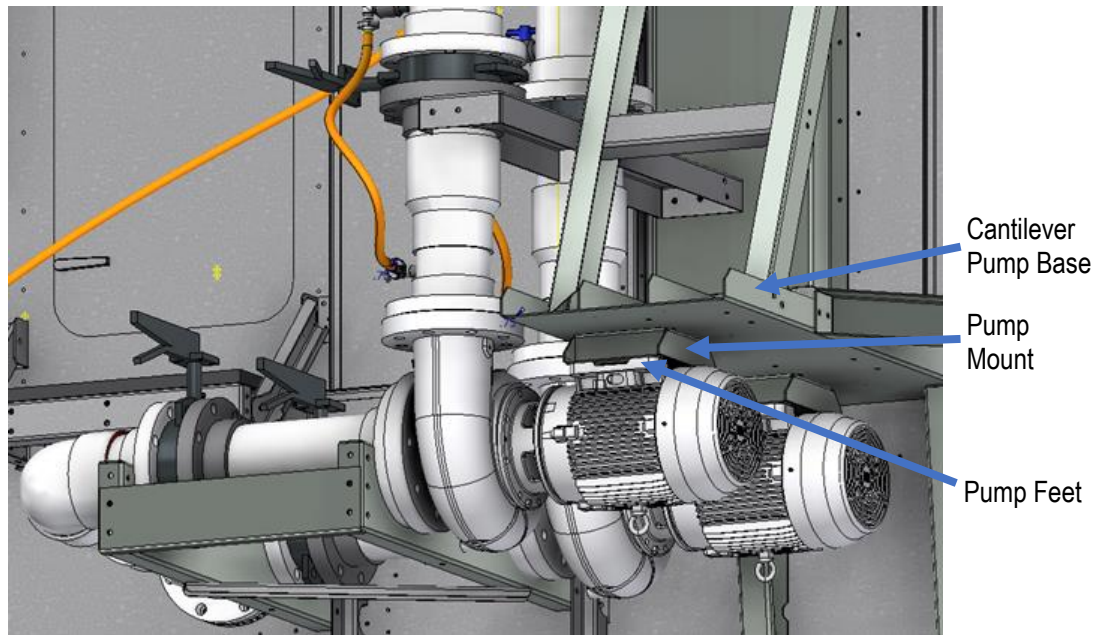

Figure 18. Pump Mounting
5. Loosen and remove hardware that fastens the pump mount to the cantilever pump base or remove the hardware that fastens the pump feet to the pump mount. See **Figure 18**.
1. Attach hardware that fastens the pump mount to the cantilever pump base or attach the hardware that fastens the pump feet to the pump mount. See **Figure 18**.